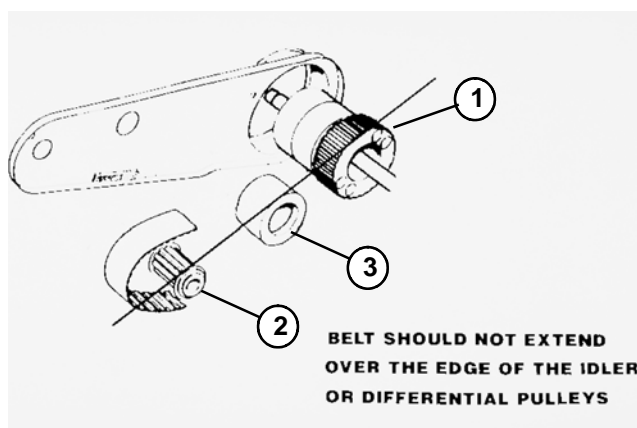

Figure 67
15. Start the unit and run for a minimum of one minute. Shut the engine off. The inside edge of the differential belt should not hang over either the idler pulley, countershaft pulley, or differential pulley (Fig. 67).